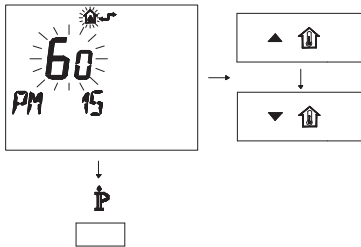

Fig. 7.14
- Modify the programmed SET by acting on buttons  $\blacktriangle$   $\uparrow$  or  $\blacktriangledown$   $\uparrow$  until a **setting of 60** is displayed, wait for the number programmed to flash (Fig. 7.14)